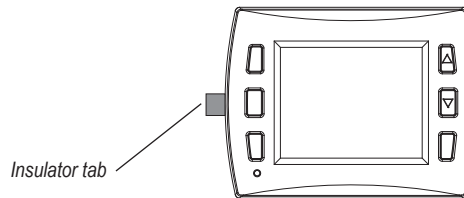

Figure 6. Remove the insulator tab from thermostat before operation.
- Remove the plastic insulator tab from the back side of the thermostat (see Fig. 6).